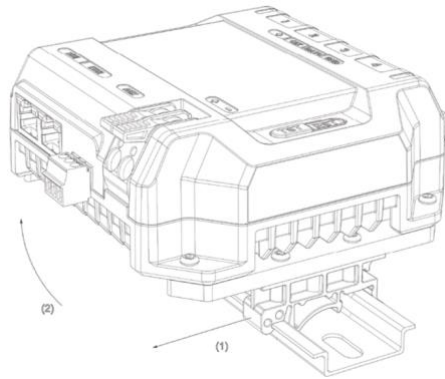

Figure 5 - PX24 Removal from DIN Rail
3. To remove the controller from the DIN rail, pull the controller horizontally, toward its power connector (1) and rotate the controller up and off the rail (2), as shown in Figure 5 below